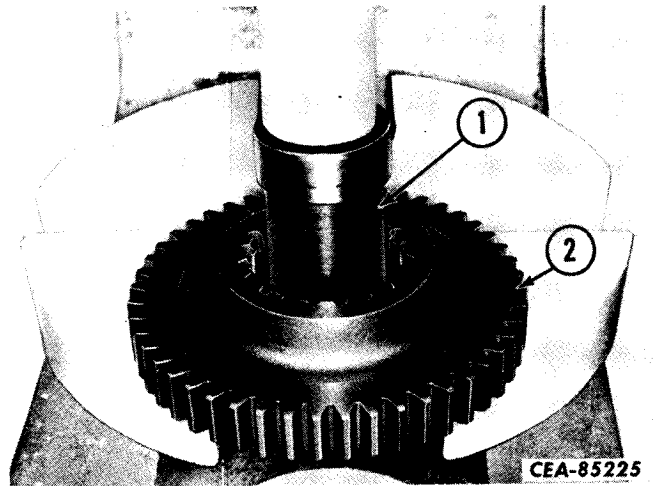

Figure 3-24
Insert the splined hub (1, Fig. 3-24) into the driven gear (2) as shown. Place the gear and hub in an arbor press and press the bearing assembly out of the driven gear.